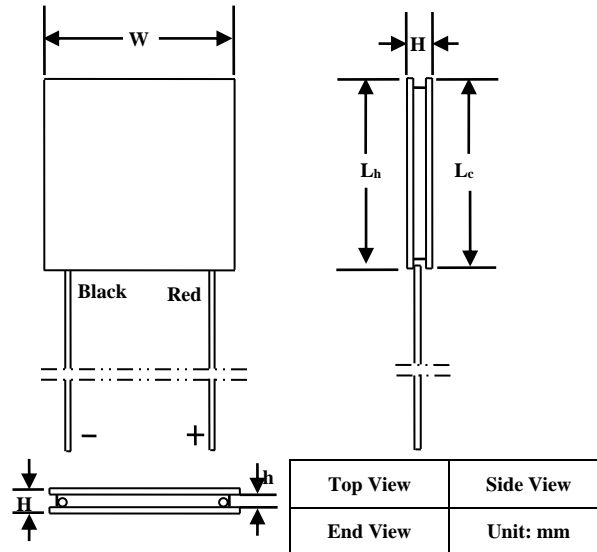

Figure 6. Mechanical Dimensions of Sealed ATE1-161 series
The ATE1-161 TEC comes with 2 insulated lead wires. The positive wire is in red color, and the negative wire is of black. The mechanical dimensions are shown in Figure 6 and Table 1.
**Note:** As Figure 6 shows, when the red lead wire is on the right, then the top surface is the cold side of the TEC.